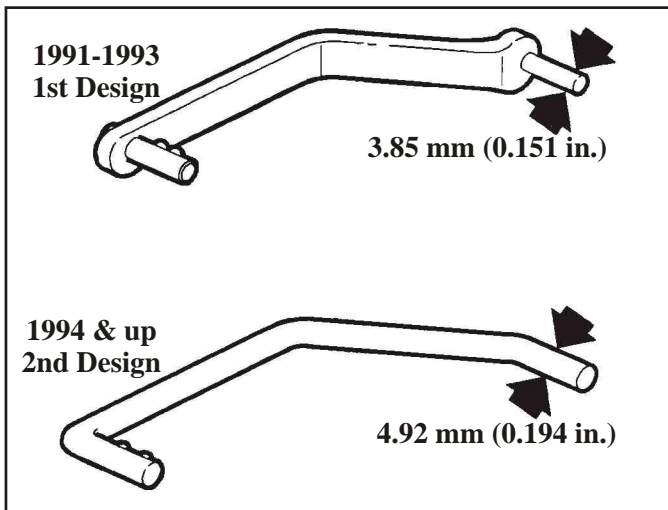

Figure 214
- IMPORTANT:** For 1994, the manual valve link has been changed from a stamped steel form to a one piece wire form link (See Figure 214). There is no change to the end of the manual valve link that is attached to the manual detent lever. BUT, the end of the manual valve link that attaches to the manual valve has increased in diameter from 3.85 mm (0.151 in.) to 4.92 mm (0.194 in.).